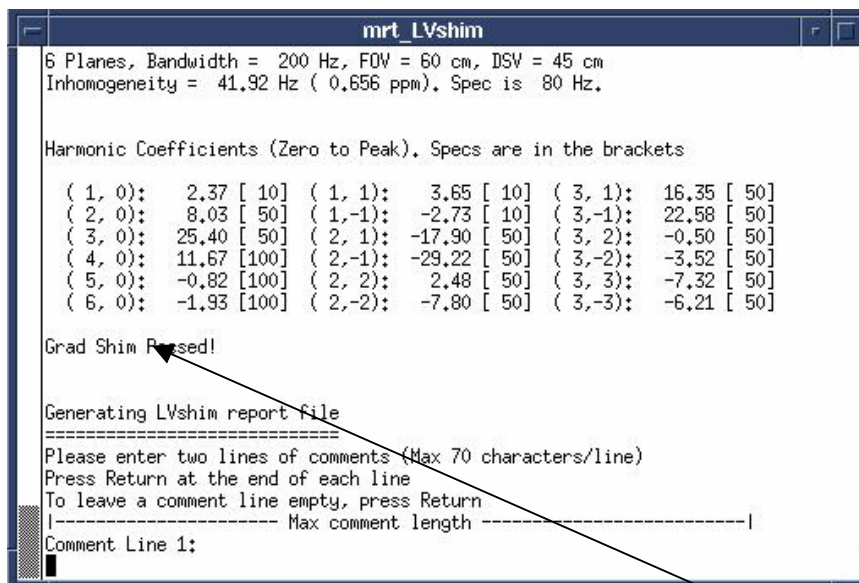

Figure 11
9. In This Example The LVShim has now passed. **Figure 11** Depending on the System it may take only one pass or it may take several. Repeat the procedure until the system passes the LVShim